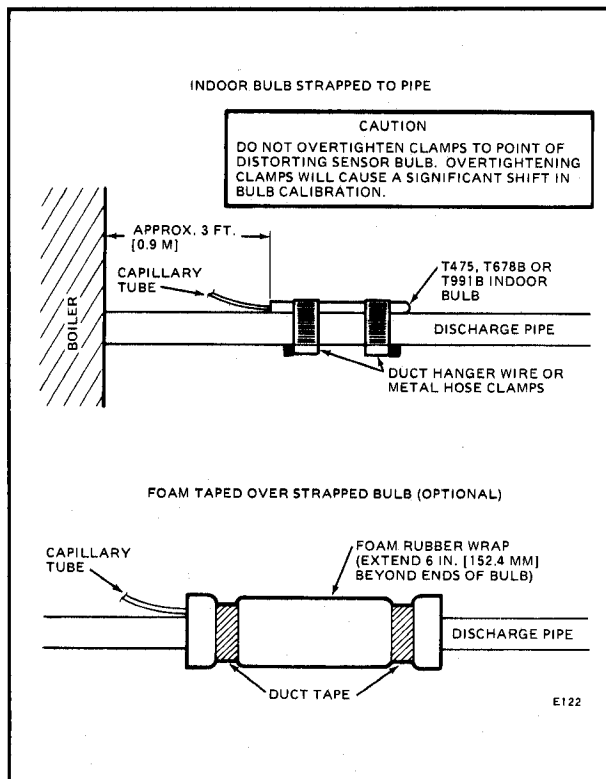

Fig. 1—Wrap-on mounting of T475A, T678B, or T991B indoor bulb on a boiler discharge pipe.
1. Secure controller bulb to pipe with duct hanger wire or metal hose clamps (Fig. 1, top).
2. Cover bulb and pipe with foam rubber insulation extending at least 6 in. [152 mm] beyond both ends of bulb (Fig. 1, bottom).